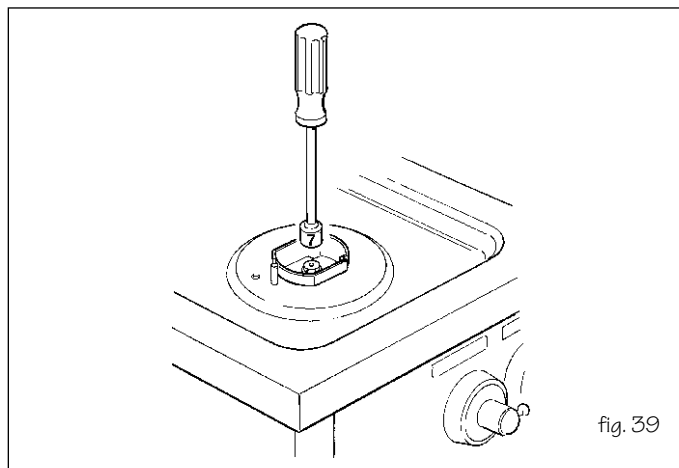

fig. 39
- using a 7 mm spanner unscrew the injectors fitted (Fig. 39) Replace them with the appropriate injectors and tighten them without excessive force;